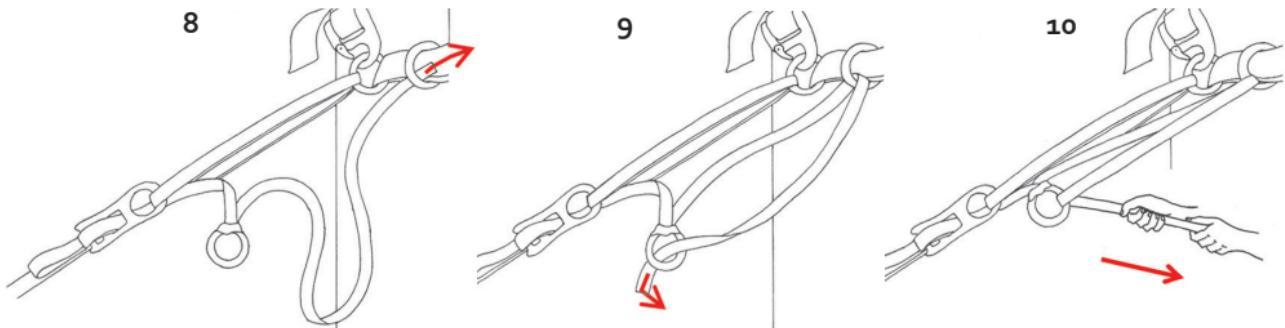

Fig. 13
- Run the remaining line through the Express-Ring in the tree sling and then through the second Express-Ring (Fig. 13, 8–9).
- To tighten the Slackline simply pull away from the Slackline as usual (Fig. 13, 10).